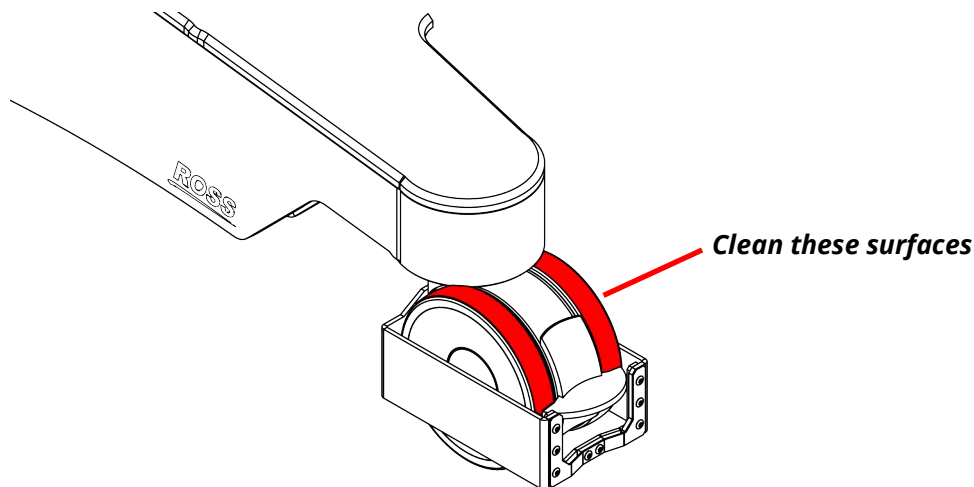

Figure 2 Clean the exposed portion of the wheel's surface
- Put on protective gloves, and then clean portion of the wheel that is exposed above the cable guard using a cloth, warm water, and mild detergent (see **Figure 2**).